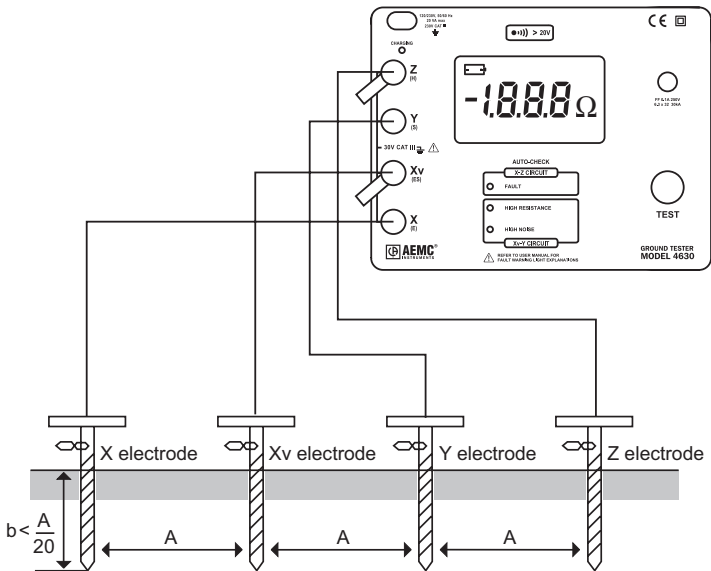

Figure 18
*Example:* 10 ft between each electrode for auxiliary ground electrodes that will be driven 10 ft deep (See Figure 18).
- Read the resistance level (R) indicated on the display.